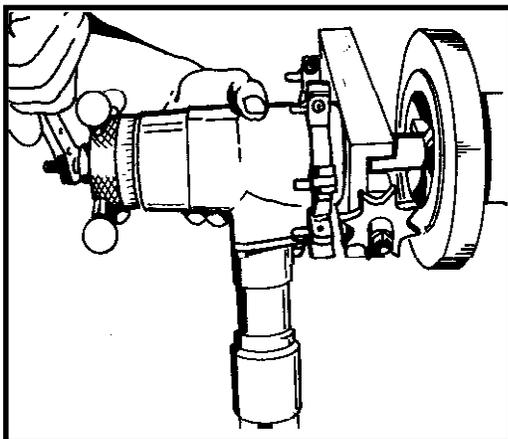

Figure 17
7. Select proper leg extension and install machine in pipe (Figure 17) (For further details, see Extension Leg Installation Chart on page 10).